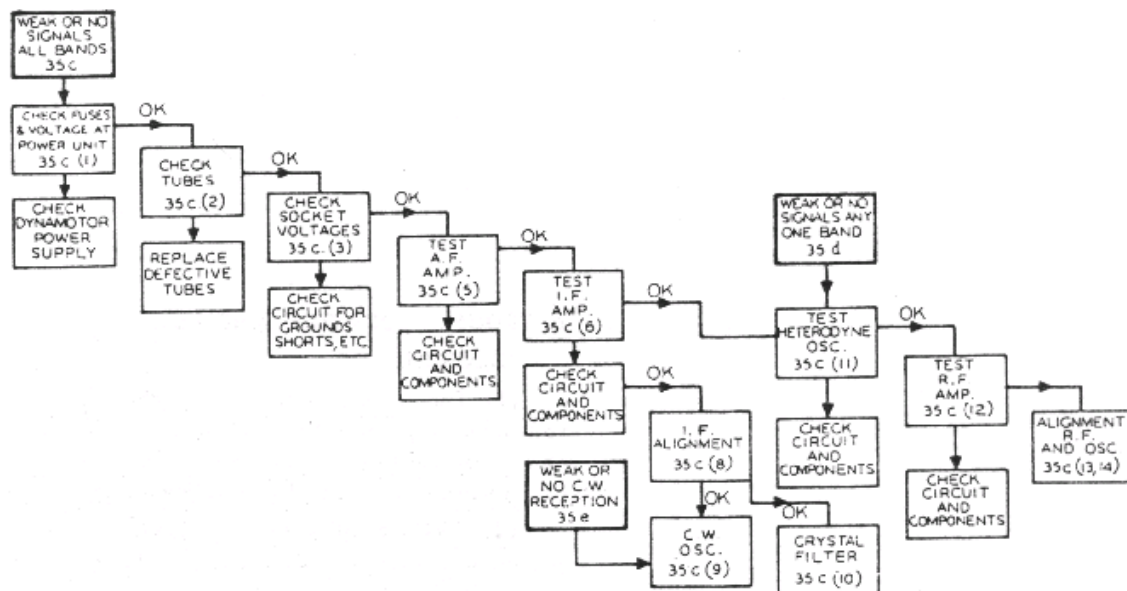
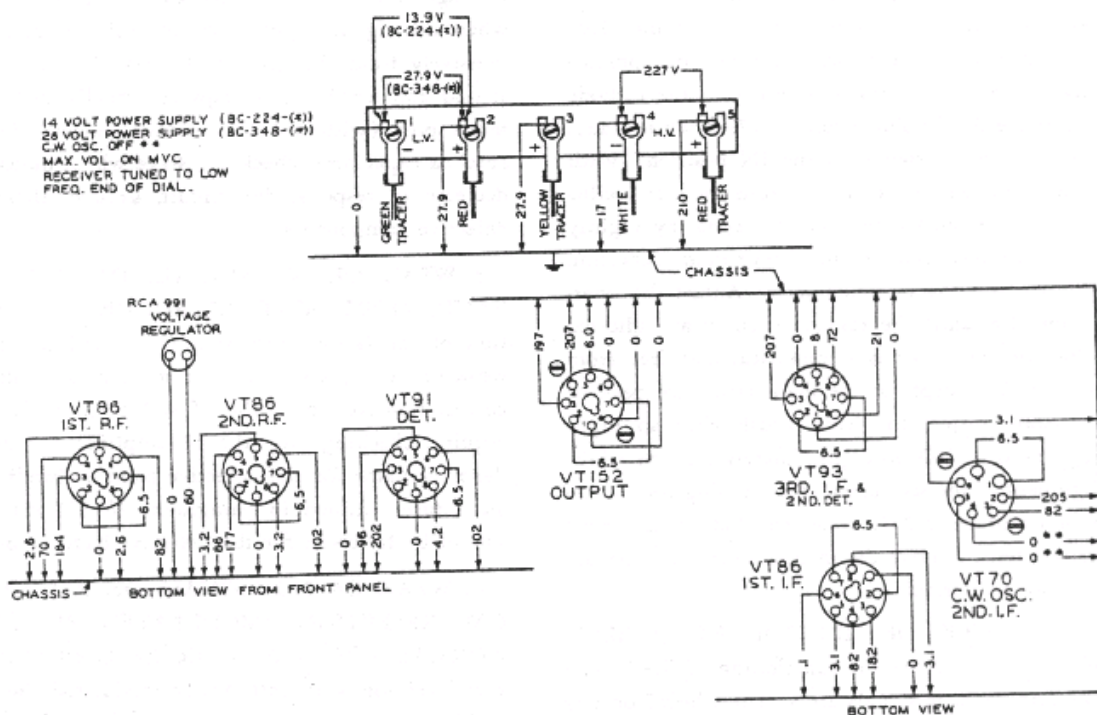

Figure 5-1 Trouble Location and Correction Diagram
Figure 5-2 Radio Receiver BC-348-(*) or BC-224-(*) -- Dynamotor and Tube
Figure 5-1 graphically outlines the procedure for trouble location, the numbers in each block referring to the paragraph in this section.
(1) CHECK OF DYNAMOTOR VOLTAGES. --When all signals on all bands are weak or no signals are heard even when known to be present, the procedure follows that shown in Figure 5-1. The voltages checked at the dynamotor terminal board should closely approximate the values shown in Figure 5-2. Conditions for measurement are as follows: Input 28-volts for Radio Receiver BC-348-(*) or 14volts for Radio Receiver BC-224-(*); "CRYSTAL" Switch Set to "OUT"; 'AVC-OFF-MVC' Switch Set to "MVC"; "INCREASE VOL." control set to maximum; "C.W. OSC." Switch Set to "OFF." Load 4,000 ohms resistance (output transformer connected for HI output impedance). If these readings do not approximate the values shown, check the fuse as well as the dynamotor and filter circuits, wiring and components.
(2) TUBE CHECK.--If the voltages at the dynamotor terminal board approximate the values given, check all tubes for emission and characteristics or replace all tubes with those of known average characteristics.
(3) CHECK OF SOCKET VOLTAGES.--If tubes check satisfactorily, or if, after replacing with tubes known to be good, the sensitivity is still low, check all tube socket voltages. The average socket voltages are given in Figure 5-2.
- (4) CHECK CIRCUIT WIRING AND COMPONENTS.--If the tube socket voltages do not approximate the values shown in figure 5-2, check the associated circuits and components for grounds, shorts, and similar defects.
- (5) TEST OF AUDIO-FREQUENCY AMPLIFIER.--Having checked all socket voltages and found the values to be correct, test the audio frequency amplifier. This can be checked by capacitively-coupling a 400-cycle voltage of approximately 2 volts rms from the detector diode socket prong to ground using a capacitor of 500,000 micromicrofarads. As an alternative, a modulated 91.5 kc signal of 2 volts may be coupled to this point and ground. Proper functioning of the audio amplifier will be indicated by an output well over 1.0 milliwatts for the 2 volt audio input or approximately 1 milliwatt output for 915 kc input. Check circuits, wiring and components if this order of response is not obtained.
- (6) TEST OF INTERMEDIATE-FREQUENCY AMPLIFIER.--Following a satisfactory test of the audio amplifier, check the intermediate frequency amplifier by capacitively coupling the modulated test oscillator to the grid cap of the first detector tube through a 100,000-micromicrofarad capacitor, with the oscillator frequency being adjusted to 915 kc. A rough check of the proper functioning of the i-f amplifier is indicated by a comfortable headphone output level with low input from the test oscillator. (Approximately 30 microvolts input for 10 milliwatts output.)
- (7) I-F AMPLIFIER CIRCUIT CHECK.--If the i-f amplifier does not respond as above or lacks sensitivity, a progressive check, stage by stage, should be made. The test oscillator, 915 kc (modulated 30% with 400 cycles), is connected through a 100,000 micromicrofarad capacitor to the second detector diode socket prong. A signal response indicates proper functioning. Coupling the test oscillator to the grid of the third i-f should indicate a decided gain in sensitivity. Proceeding similarly towards the first detector, each stage should show a decided gain. Circuit check a faulty stage for grounds, shorts, or defective components.
- (8) CHECK AND ADJUSTMENT OF C-W OSCILLATOR.---Check and adjust the c-w oscillator by coupling the 915 kc input (modulation off) to the grid of the first detector tube and switch the c-w oscillator ON. With the beat frequency control set at mid-position, the oscillator inductance tuning core 121 is adjusted for zero beat. If no c-w beat can be heard, check the c-w oscillator circuit for grounds, shorts, or defective components. With the c-w oscillator ON the screen voltage at the first and second i-f sockets drops to approximately 45 volts (measured to ground).
- (9) TEST AND ADJUSTMENT OF CRYSTAL BAND-PASS FILTER.--Normally the crystal bandpass filter is adjusted at the factory for a band width of 1,500 to 2,000 cycles at 10X down from resonance. Test this filter by applying an unmodulated signal of approximately 915 kc connected through a 0.1 mfd capacitor to the grid of the first detector tube. The c-w oscillator should be off during this test. To adjust the band width of the crystal filter, a signal generator or microvolter having an expanded tuning scale in the vicinity of 915 kc and having also an attenuator with a multiplier of 10 times (20db) is required. The following procedure is recommended: Connect a microammeter with a range of approximately 200 microamperes in series with the cathode return of the AVC volume control (79-B white lead). Throw the crystal switch to the IN position. With the unmodulated 915 kc input from the test oscillator, find the resonance peak of the crystal by slightly retuning the test oscillator until maximum deflection is indicated on the microammeter. Adjust the phasing control 8 until the resonance curve as indicated on the microammeter is symmetrical and free from dips or peaks except for the main resonance peak of the crystal. Adjust the band Width with an input voltage ratio of 10X to approximately 2 kc by slight realignment of the secondary (top) tuning core of the first i-f transformer 251. After concluding the above described tests, remove the microammeter and restore the circuit to normal.
- (10) CHECK OF HETERODYNE OSCILLATOR.--After checking the functioning of the i-f and audio amplifiers, if signals are still not heard on any band, check the heterodyne oscillator. This can be done by observing the cathode voltages at the socket of the first detector tube, Tube JAN 6J7, when grounding the stator of the oscillator section (I-D) of the tuning capacitor. If no change in voltage is noted with this test, check the oscillator circuit for grounds, shorts or defective components.
- (11) TEST OF THE R-F AMPLIFIER.--Having completed the test and alignment of the audio amplifier, i-f amplifier and heterodyne oscillator, test the r-f amplifier as follows: